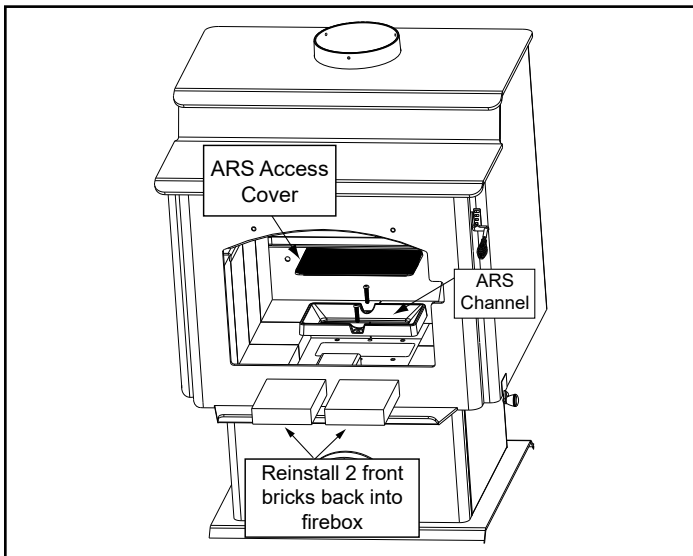

Figure 23.2
1. Replace front bricks that were removed in step 1 of **Begin installing the ARS System** on **page 21** (**Figure 23.2 on page 23**).
3. Install ARS access cover inside of ARS Channel that is located inside the firebox (**Figure 23.2 on page 23**).